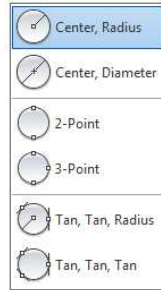

FIGURE 5.47: The Circle command's flyout menu
2. Click the down arrow next to the Circle tool, found on the Home tab ➤ Draw panel, and look at the flyout menu, as shown in Figure 5.47.